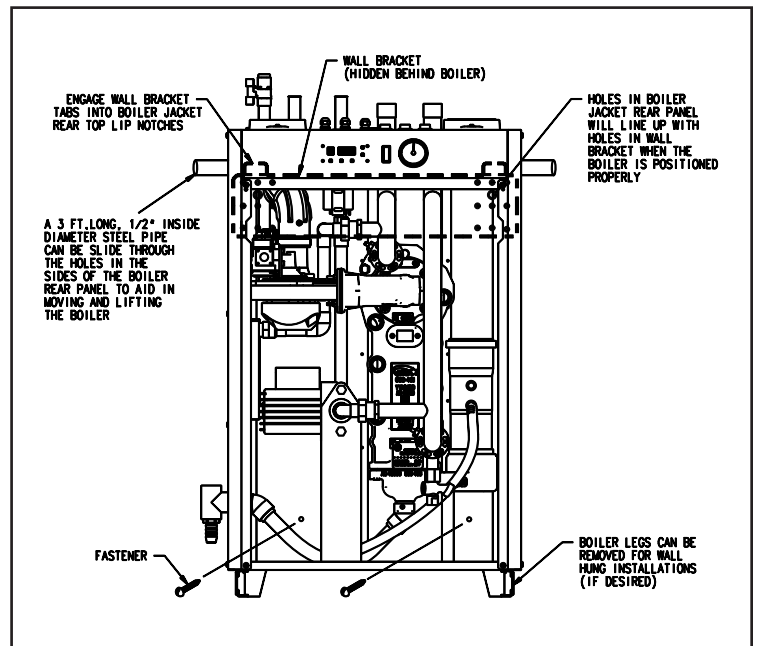

Figure 4b. Mounting boiler on the wall
B. INSTALL THE BOILER ON THE WALL. SEE FIGURE 4b.